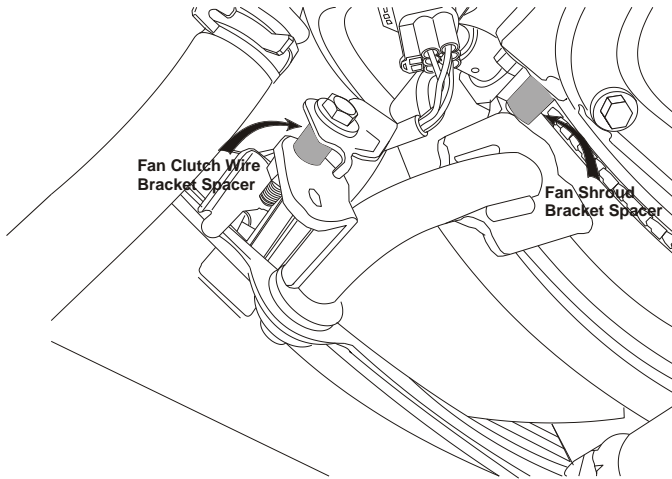

Figure 3.10
- ☐ Install the driver's side of the cut fan shroud bracket to the engine using the supplied bolt and spacer (Figure 3.10). Make sure that there is sufficient clearance between the bracket and the OEM belt. Use Loctite on the bolt. Install the fan shroud nuts.
- ☐ Install the fan clutch wire bracket using the supplied bolt, washer, and spacer (Figure 3.10).